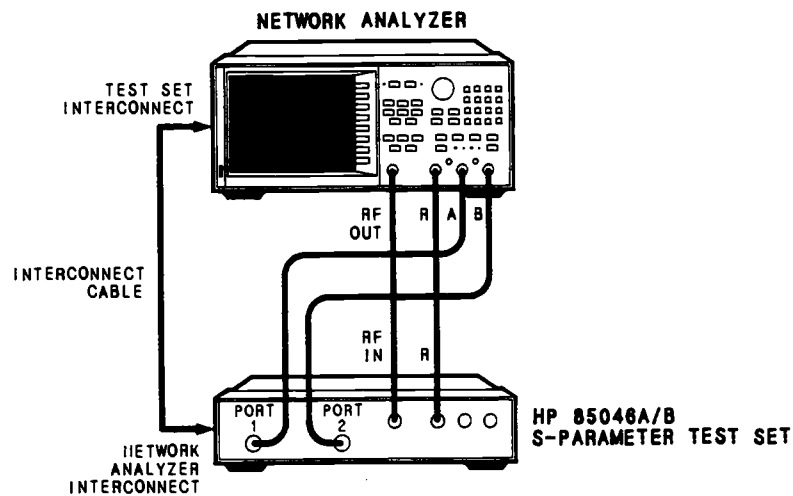

Figure 4-4. Switch Repeatability Test Setup
1. Connect the equipment as shown in Figure 4-4, turn on the analyzer and press **[PRESET]**. To test the HP 85046B, press **[STOP] [2] [G/n]** to limit the frequency sweep to 2 GHz.